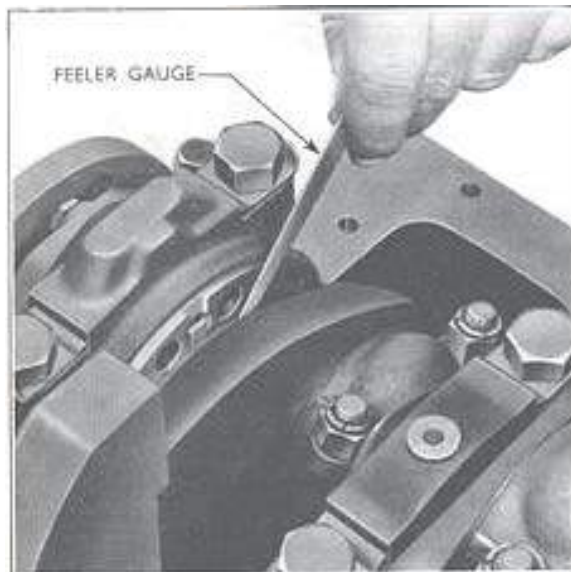

Fig. 26
To check the crankshaft end-float, carefully push the crankshaft forward as far as it will go, and check the gap between the machined shoulder on the crankshaft web and the crankshaft thrust washers, using a feeler gauge (see Fig. 26). Check the corresponding gap on the other side of the crankweb with the crankshaft pushed fully rearward.
8. Push the crankshaft fully endwise and check the end-float as shown in Fig. 26, which should be within the limits specified. If this limit is exceeded fit new thrust washers.